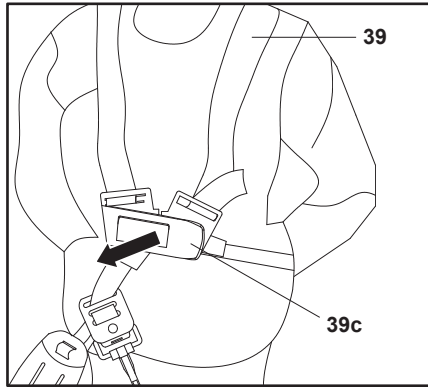

Fig. 28
**WARNING!** Always attach the product to the harness (39). Do not carry it only with your hands!
8. In case of emergency hold the front foam grip (8) with the right hand, and use the left hand to pull open the quick release lever (39c). The harness (39) will be released automatically from the body because of the weight of the product (Fig. 28).